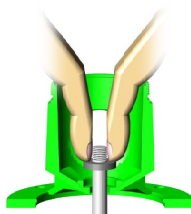

Figure 16 - Press in Seal
2. Apply liquid soap (one drop only) to the outside of the Buna-N gasket that houses the ceramic seal seat. With thumb pressure, press the ceramic seat, polished face up, squarely into the seal cavity (see Figure 16).